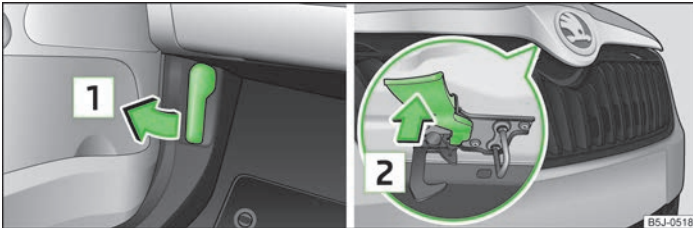

Fig. 116 Bonnet/radiator grille release lever: Release lever
➤ Pull the release lever under the dash panel **1** » Fig. 116.
- Press the release lever in the direction of the arrow **2** » Fig. 116 and the bonnet is unlocked.